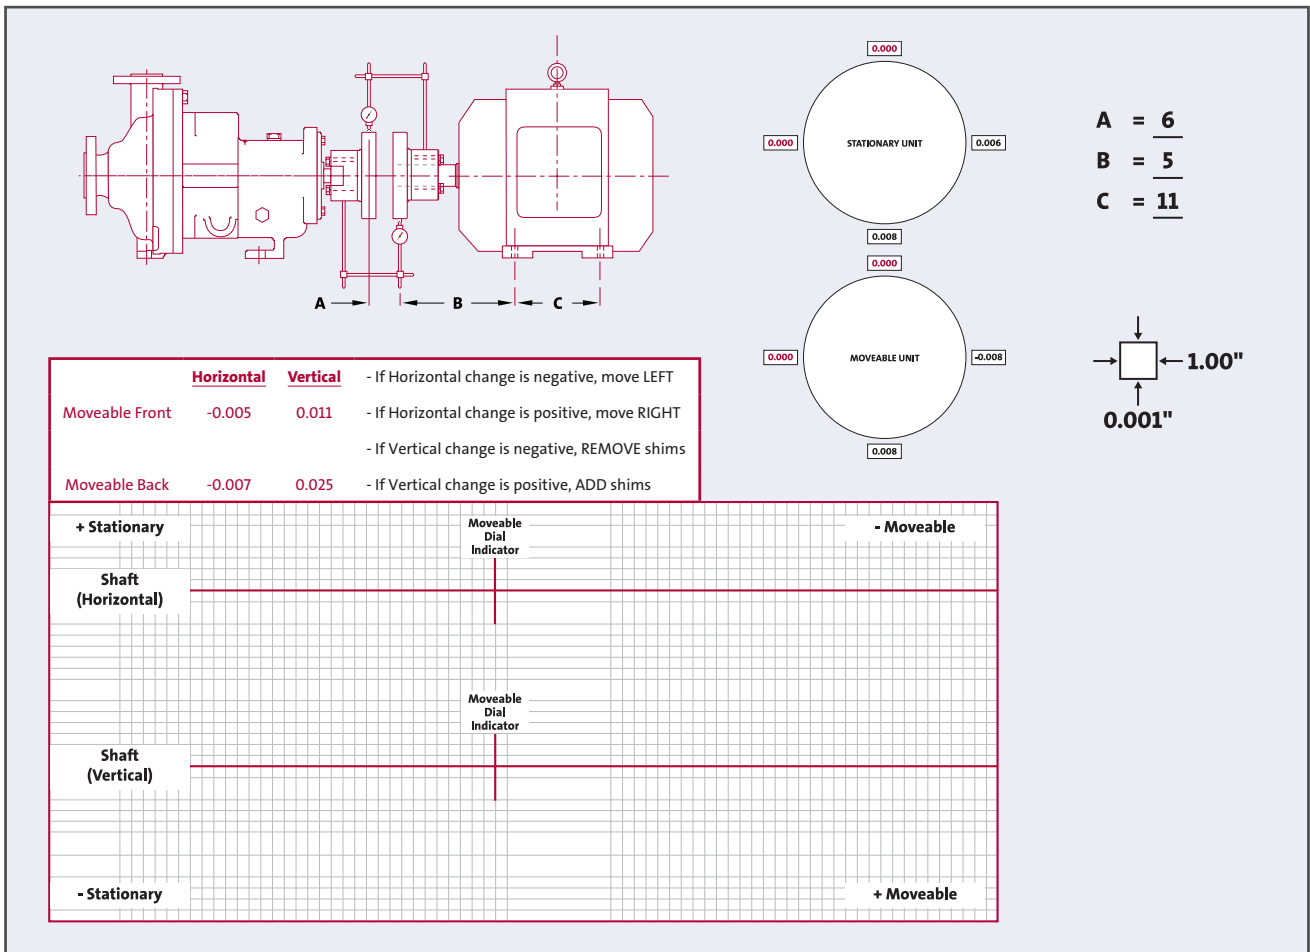

Figure 15. Reverse Dial Indicator Alignment Worksheet
Plain graph paper can be used for plotting the information. A worksheet, as shown in Figure 15,
- d. “Zero” the rim and the face dial indicators to 0.000” at the 9 o’clock position of the couplings, as viewed from the motor end. Reference the dial indicator diagram in *Figure 15*.
- b. “Zero” the rim and the face dial indicators to 0.000” at the 12 o’clock position of the couplings, as viewed from the motor end. Reference the dial indicator diagram in *Figure 15*.